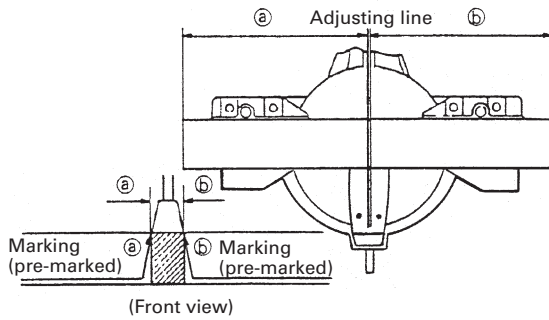

Fig. 26
- (1) As shown in Fig. 26 the width of the saw blade is the width of the cut. Therefore, slide the workpiece to the right (viewed from the operator's position) when length b is desired, or to the left when length a is desired.